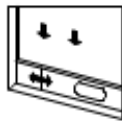

Figure 2
1) Half open the window, and mount the window sealing plate assembly to the window (as shown in Fig.2 and Fig.3). Components can be placed in horizontal and vertical direction.